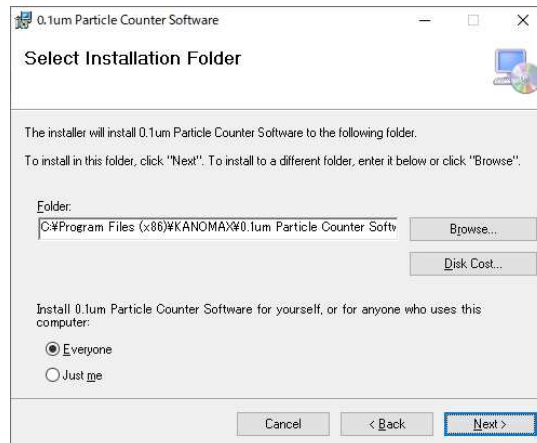

Figure 2-2 Select Installation Folder Dialog Box
- 2) Click the **Next** button to display the dialog box as shown in Figure 2-2. The default location to install is the C drive. To install into a different drive or a folder, click “Browse...” and choose the required location.